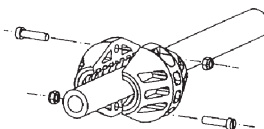

FIG 7.
2. Remove the hose stopper (Fig. 7).
2. Ta bort slangstoppet (Fig. 7).